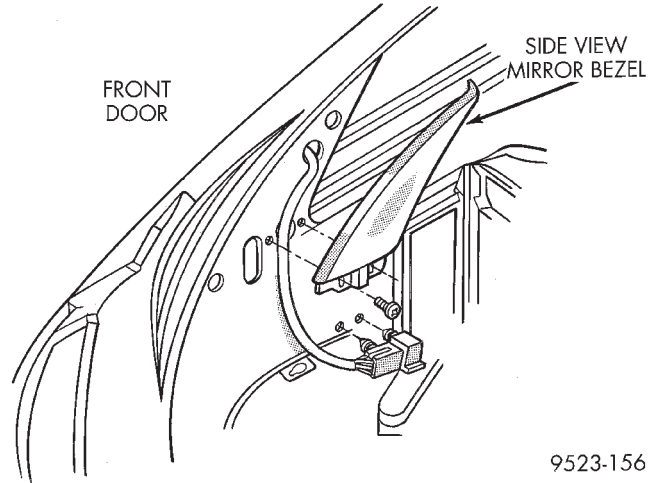

Fig. 19 Side View Mirror Bezel
- (1) Remove door trim panel.
- (2) Remove screws holding side view mirror bezel to door frame.
- (3) Separate side view mirror bezel from vehicle (Fig. 19).
- (4) If equipped, loosen set screw holding cable adjuster to side view mirror bezel.
- (5) Separate cable adjuster from side view mirror bezel.